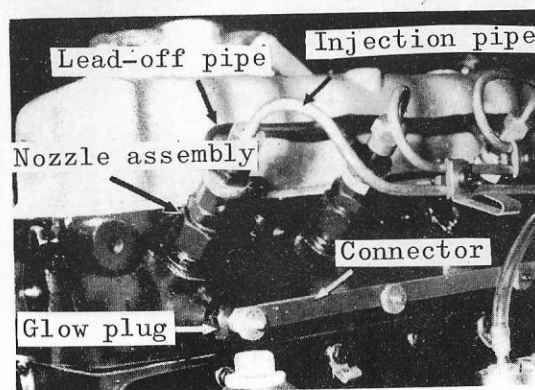

Fig. 4-47
- (1) Remove the injection pipe and leak-off pipe and then, remove the nozzle assembly by turning loose the nozzle holder nut with a wrench. (See Fig. 4-47)